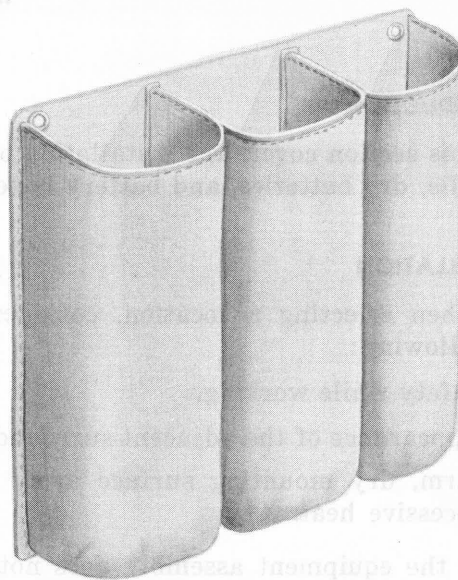

Fig. 3 – KS-6677 Battery Bag
2.06 *KS-6677 canvas battery bag* (Fig. 3) is used to hold three KS-6542 dry cells. Consider using KS-6700 battery before using battery bag.